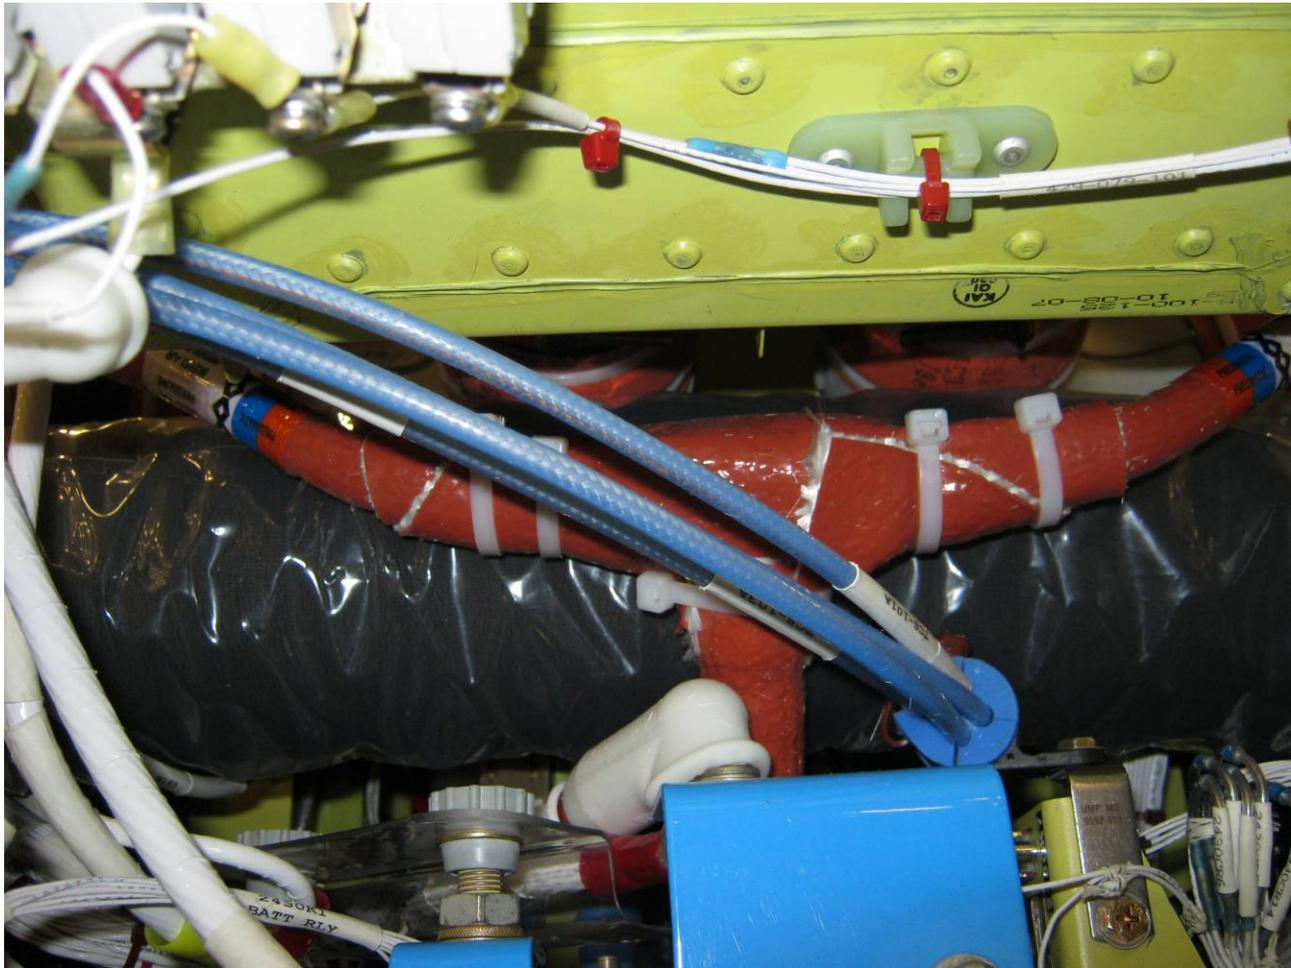

Figure 7: Firesleeve over defroster Tee fitting and heater tube.
5. If Air Comm Defroster 429H-928 is installed, it is acceptable to cut S-5002EC-24 Firesleeve to fit and wrap over the ES41158-6-6-8 Tee and 429H-5032-159 Heater Tube (running vertically below the tee) to protect the 429EC-6012-3 Crossover Duct Assembly. Secure Firesleeve in place using Tywraps. See Figure 7.